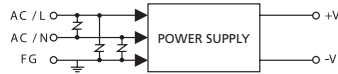

Figure 14: The connection of the Surge Absorber
- b) Shock Suppression: Shock is one kind of short-time high voltage and high energy. To prevent the shock, we should add surge absorbers between AC/L - AC/N, AC/L - FG, and AC/N - FG, which are shown as figure 14.